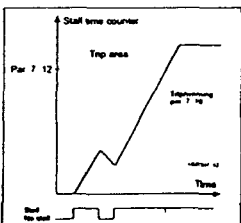

Figure 3.5-31 Counting the stall time
- The time can be set between 2.0—120 s. This is the maximum allowed time for a stall. There is an internal up/down counter to count the stall time. See figure 3.5-31. If the stall time counter value goes above this limit the protection will cause a trip (refer to parameter 7 10).